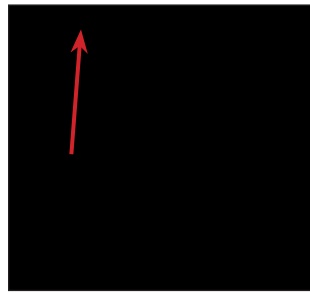

FIG. 5. Lift the top off the draft standard.
5. Remove the draft standard top. See fig. 5.